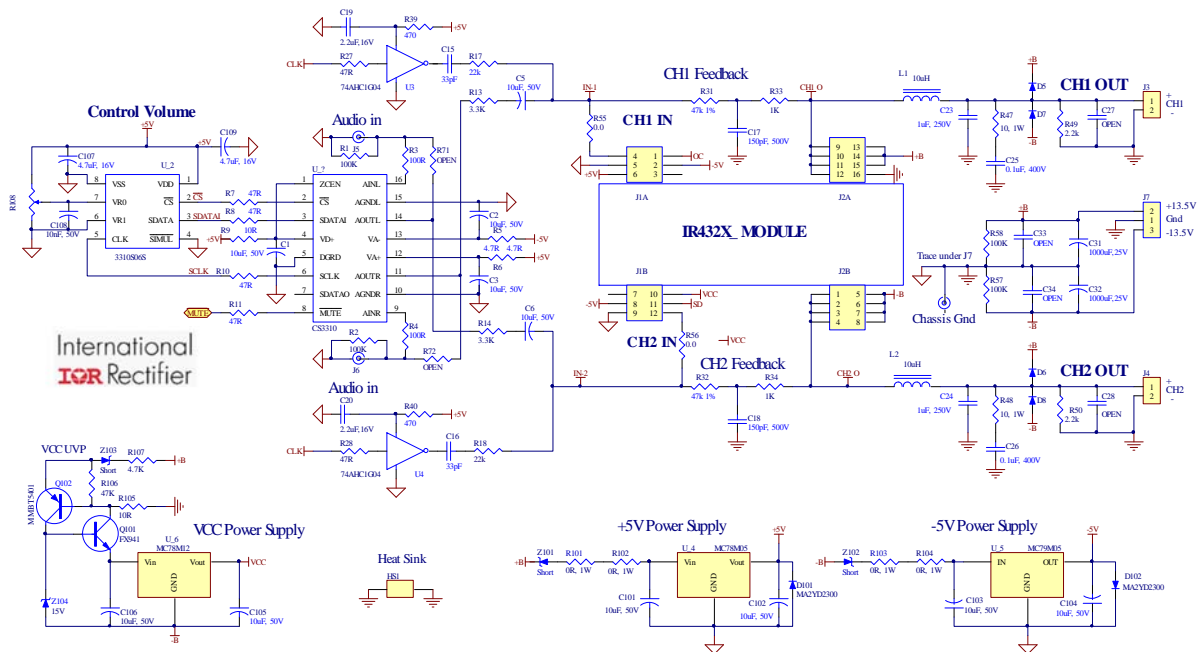

Figure12
15. For all subsequent tests as shown on the Audio Precision graphs below (Figure 3- Figure12), the measurements are taken across J3 and J4 with an AES-17 Filter. Observe that a 1 V_{RMS} input generates an output around THD+N=1% power level.